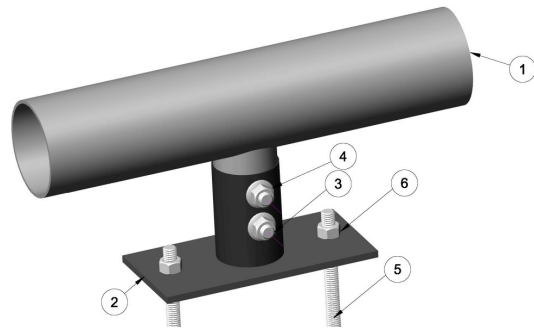

Figure 2. Carrier mount installation.
3. As shown in figure 2, slip the 1/2"-13 threaded rod (item 5) through the predrilled holes and temporarily secure with a 1/2"-13 top lock nut (item 6).